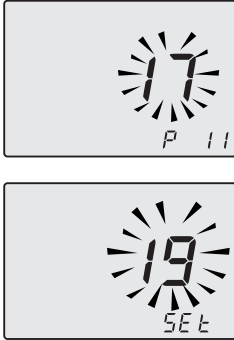

Fig. 7.31
- The writing **P11 - SEt** alternates on the display (Fig. 7.31).